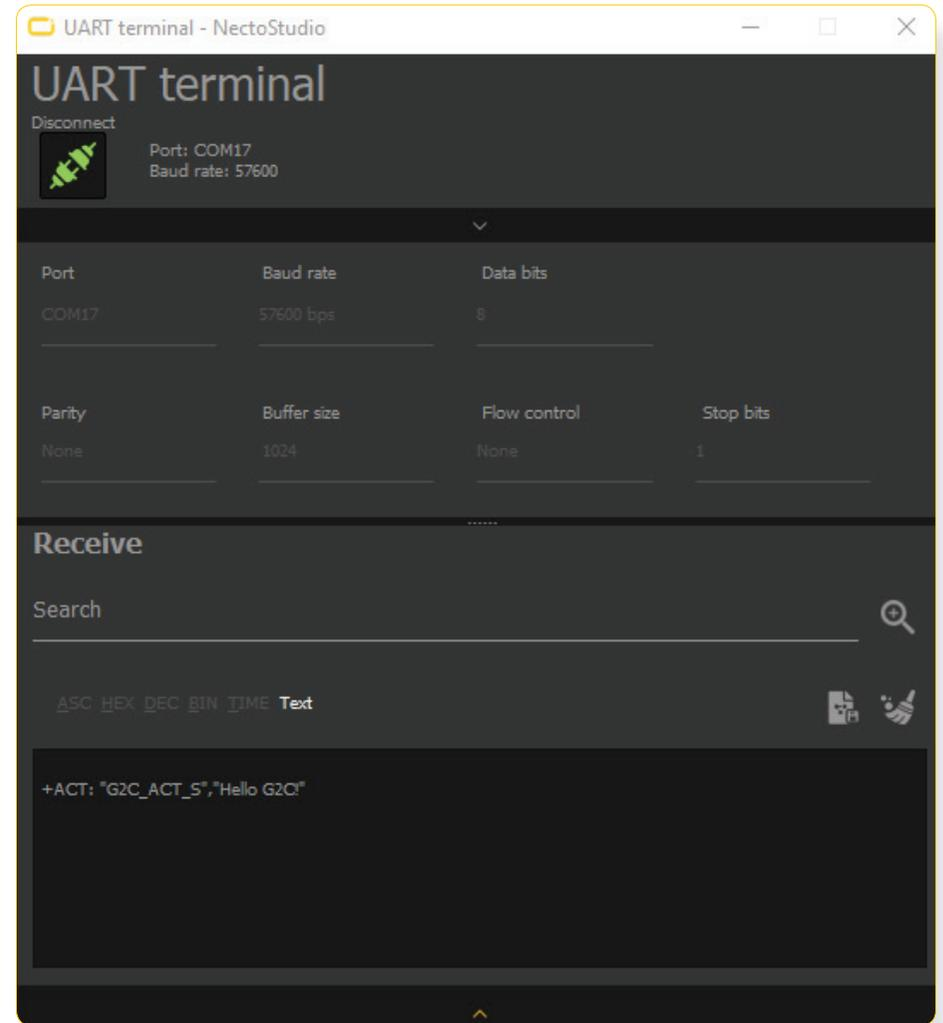

Figure 11 – UART terminal window
5. Here you can type text strings which will appear in your UART terminal after saving it, as shown in the **Figure 11**.